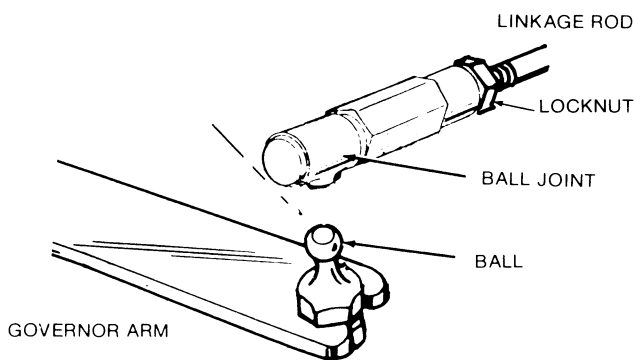

FIGURE 8. BALL JOINT
1. Loosen lock nut on linkage rod and disconnect linkage at ball joint with engine stopped, Figure 8.